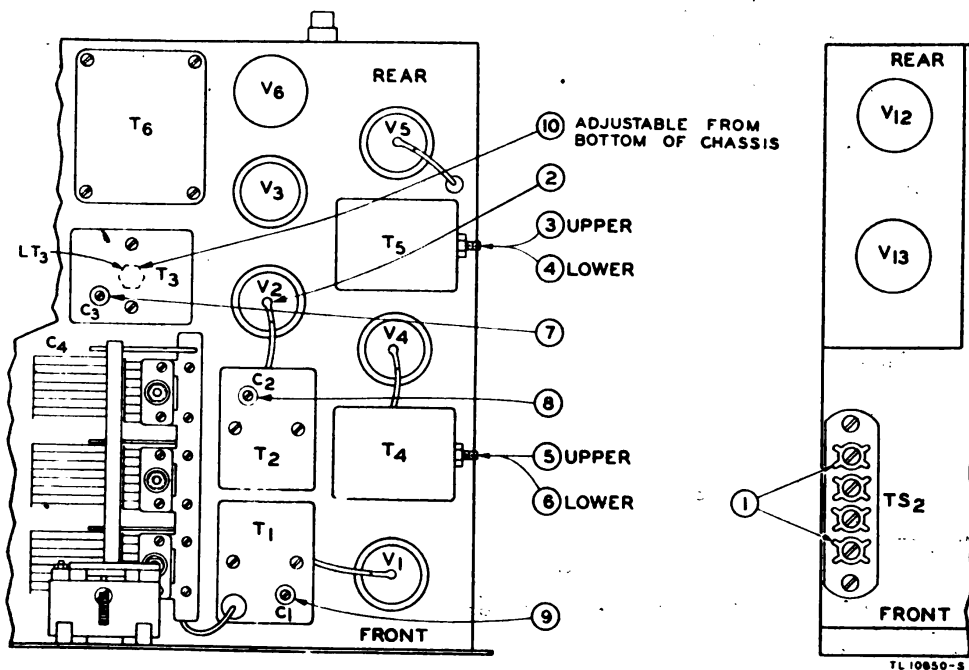

Figure 34. Receiver alignment adjustments showing r-f chassis—top view, at left; power supply—top view, at right.
c. I-F ALIGNMENT. (1) Turn signal generator on. Set it for 385 kc modulated output. Check frequency of signal generator using frequency meter set. (See TM 11-300.)
- (2) Remove grid lead from top of Tube JAN-6L7, V2 (fig. 34(2)).
- (3) Connect 10,000-ohm resistor between grid of V2 and chassis.
- (4) Connect hot lead of signal generator through 0.01-mf capacitor to grid of V2.
- (5) Connect ground lead of signal generator to chassis.
- (6) Connect output meter across the two outside terminals of TS2 (fig. 34(1)).
- (7) Turn receiver on by plugging line cord into power source. Allow receiver to warm up 15 minutes before proceeding.
(8) Adjust secondary (fig. 34 (3)) and primary (fig. 34 (4)) of second i-f transformer, T5, for maximum output as indicated on output meter.
- (9) Adjust secondary (fig. 34(5)) and primary (fig. 34(6)) of first i-f transformer, T4, for maximum output as indicated on output meter.
- (10) Repeat steps 8 and 9 above.
(11) Remove 10,000-ohm resistor and 0.01-mf capacitor, and replace grid cap of V2.
d. H-F OSCILLATOR ALIGNMENT. (1) Leave the signal generator tuned to 385 kc, but remove its modulation. Couple its hot lead loosely to the grid of V2 by one turn of insulated wire wound around the lead to the grid cap.
(2) Connect a wire to the output binding post of the frequency meter set and place the free end of the wire *near but not touching* the lead to the grid cap of V2.
(3) Tune receiver dial and frequency meter set to 2,700 kc.
(4) Adjust h-f oscillator trimmer capacitor C3 (fig. 34(7)) for zero beat as heard in the handset of the receiver.
(5) Tune receiver dial and frequency meter set to 1,800 kc.
(6) Loosen locknut and adjust h-f oscillator coil slug LT3 (fig. 34(10)) for zero beat as heard in handset of receiver.
(7) Repeat steps 3, 4, 5, and 6 above until alignment is correct at both ends of the frequency band. Then tighten locknut on LT3, making certain the adjusting screw does not shift.
(8) Disconnect the signal generator and frequency meter set.
e. R-F ALIGNMENT. (1) Loosely couple unmodulated output of signal
(2) Connect signal generator hot lead through series 30-ohm resistor and 0.0005-mf capacitor to antenna terminal of set. Use modulated signal.
(3) Tune receiver dial to 2,700 kc.
(4) Adjust antenna and mixer grid coil trimmer capacitors C1 and C2 (fig. 34(8) and (9)) for maximum indication on output meter.
(5) Disconnect signal generator. Remove the line cord plug from the power source. Remove the clip or connector from the safety switch before closing the front panel.
(6) Replace line cord plug.